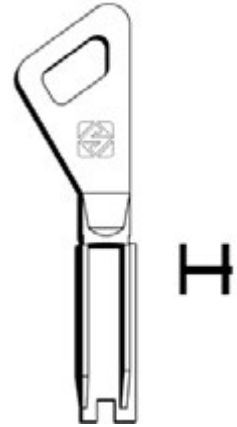

Fig. 51
- 1) Open the clamps slightly by loosening the knobs (E) (E1).
- 2) Fit the adapters and take them up against the clamps (Fig. 51).